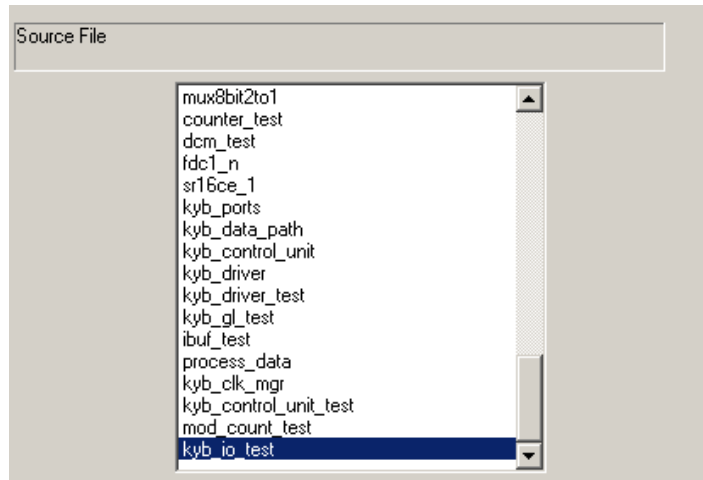
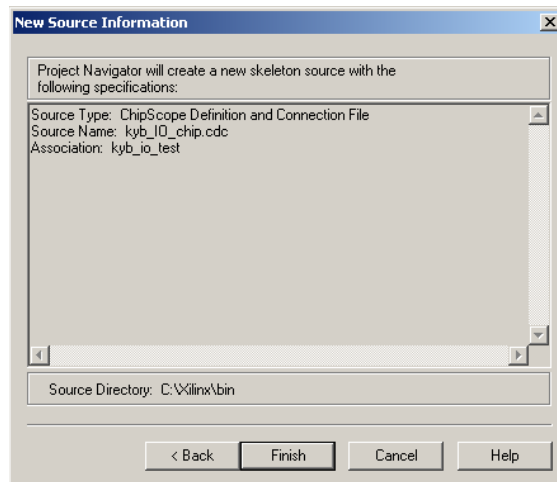

Figure 11
Figure 12
18. Follow the remaining dialogue boxes as shown in Figure 11 and Figure 12.